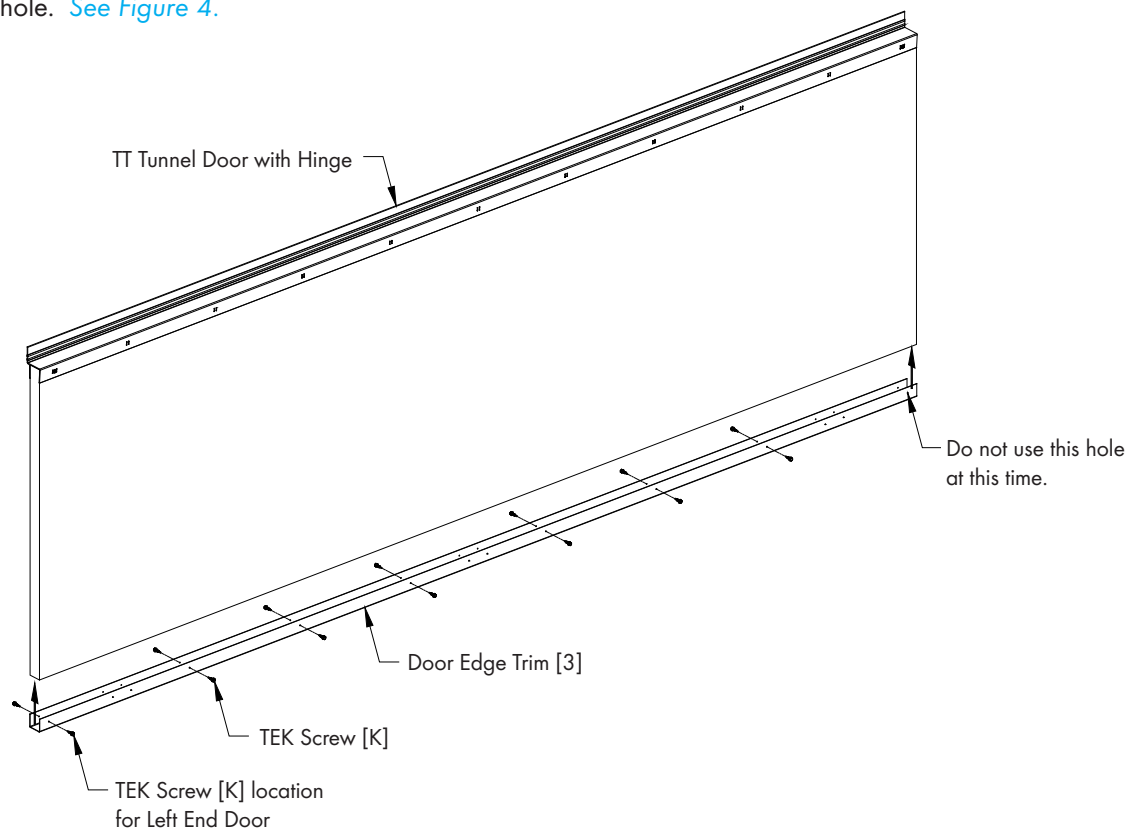

Figure 4
Find the Door Edge Trim [3] and slide it onto the bottom edge of the Tunnel Door and secure it with (14) TEK Screws [K] through the (6) single holes in the middle area of the Door Edge Trim and the left most hole. See Figure 4.